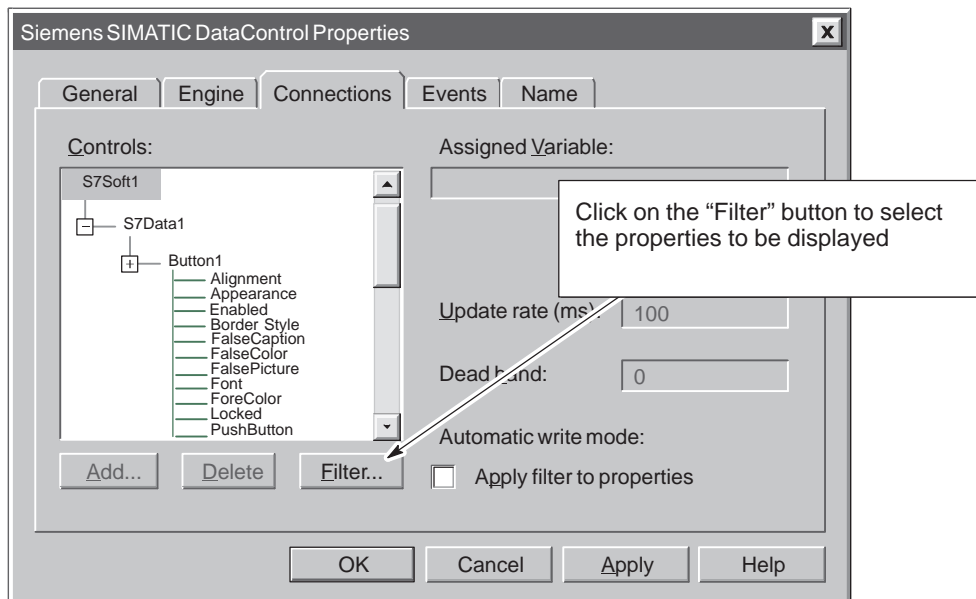

Figure 1-6 Using the Filter Button
- As shown in Figure 1-6, click on the “Filter” button.